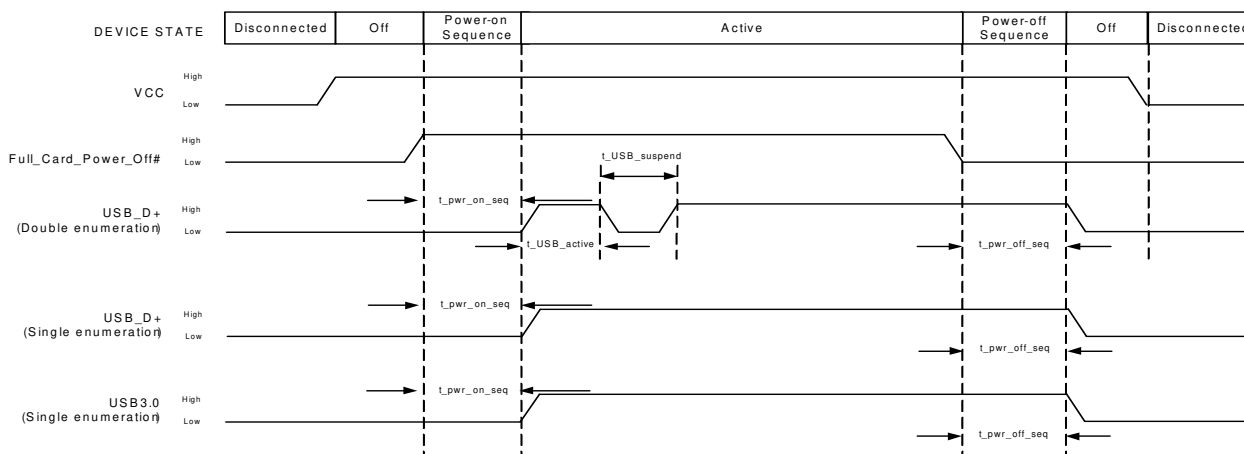

Figure 5-2: Signal Timing (Full_Card_Power_Off#, and USB Enumeration)
Figure 5-2 describes the timing sequence for powering the module on and off.
- Double enumeration—As shown in Figure 5-2:
Figure 5-2 describes the timing of PCIe port detection in the power-on sequence.